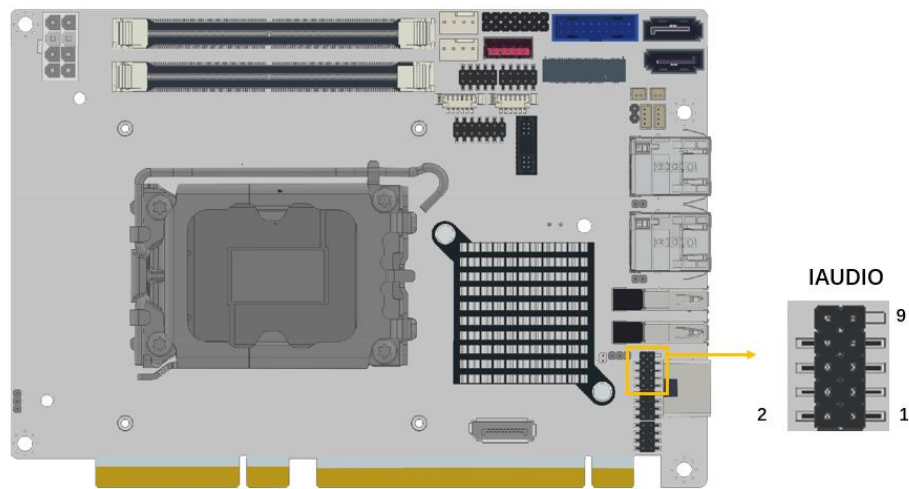

Figure 3-15: Audio Connector Location
- CN Location:** See **Figure 3-15**